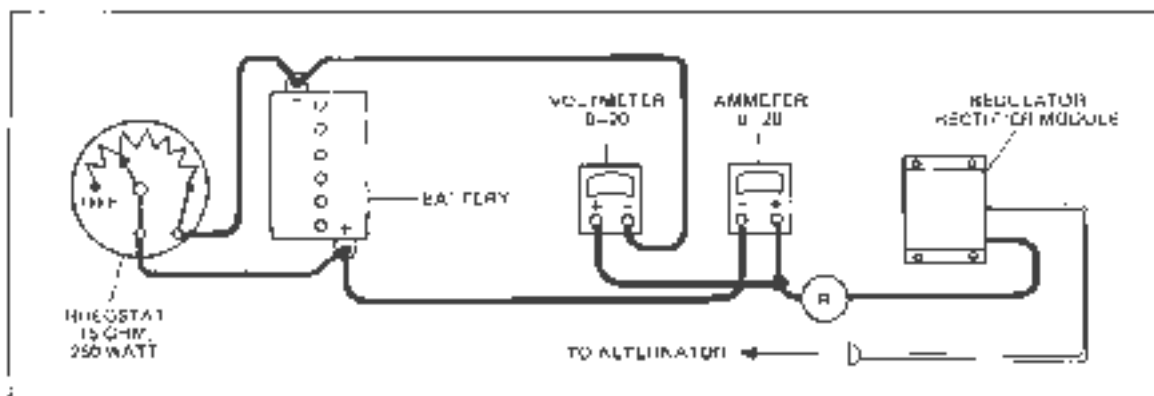

Figure 5-15. Test Arrangement with Individual Components
**Regulating Voltage Check:** (See Figures 5-15 and 5-16.) Connect an ammeter in series with the alternator output. Connect load rheostat (carbon pile) and voltmeter across battery. Check regulating voltage while running engine at 3000 rpm.